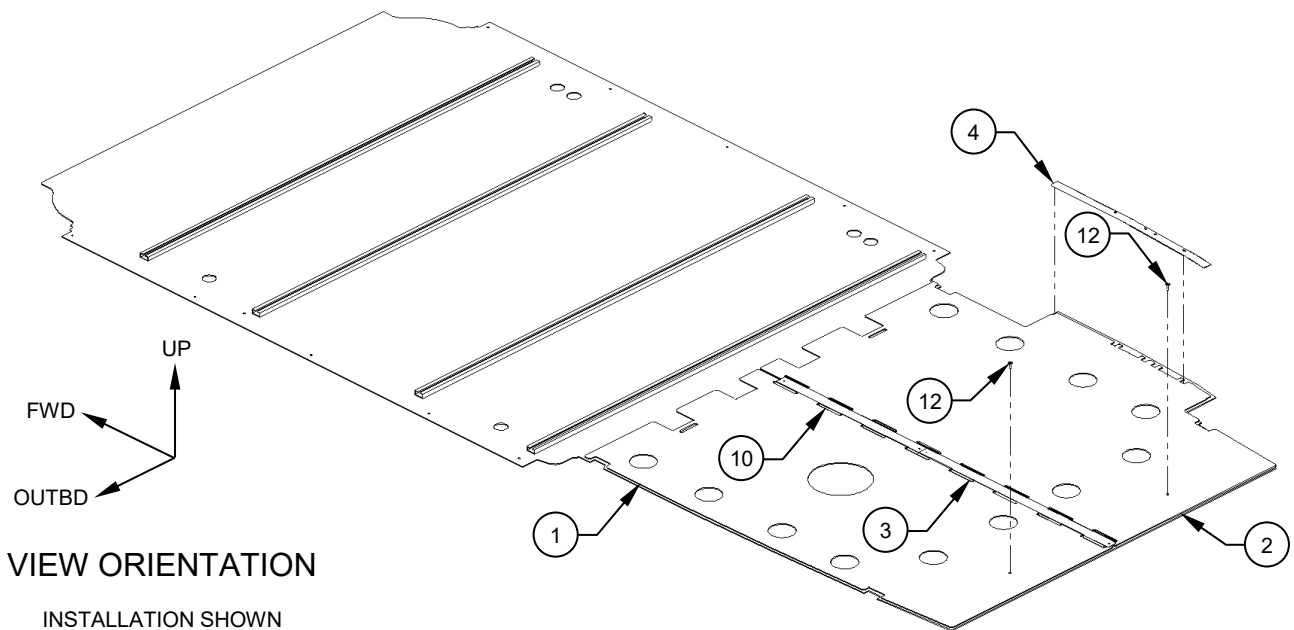

**Figure 4**
6. Install the provided fasteners (Item 10) as shown. Reference Figures 4 & 5